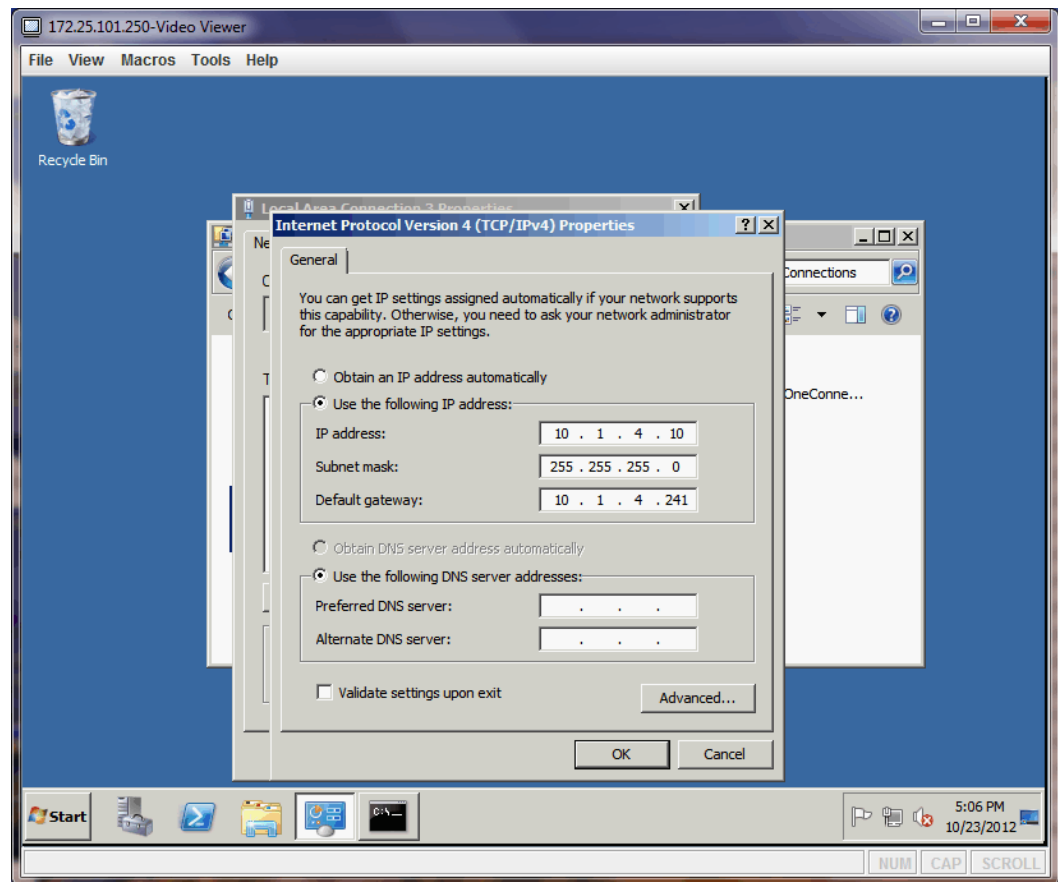

Figure 5-11 Inputting the IPv4 management address on the NIC Team adapter
10. Navigate to the TCP/IP properties for the NIC Team device for IPv4 and input the correct IP address, subnet mask, and gateway shown in Figure 5-11. We have chosen IPv4 for this example, but IPv6 addresses can be assigned in a similar manner by choosing the IPv6 stack instead.